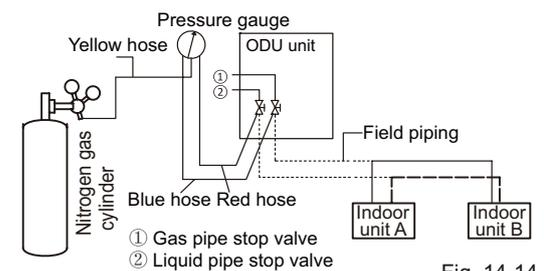

Fig. 14-14
4. Use blind plugs to block all liquid (gas) side openings, except for the opening at the indoor unit which is furthest from the outdoor units ("Indoor unit A" in Fig. 14-14).